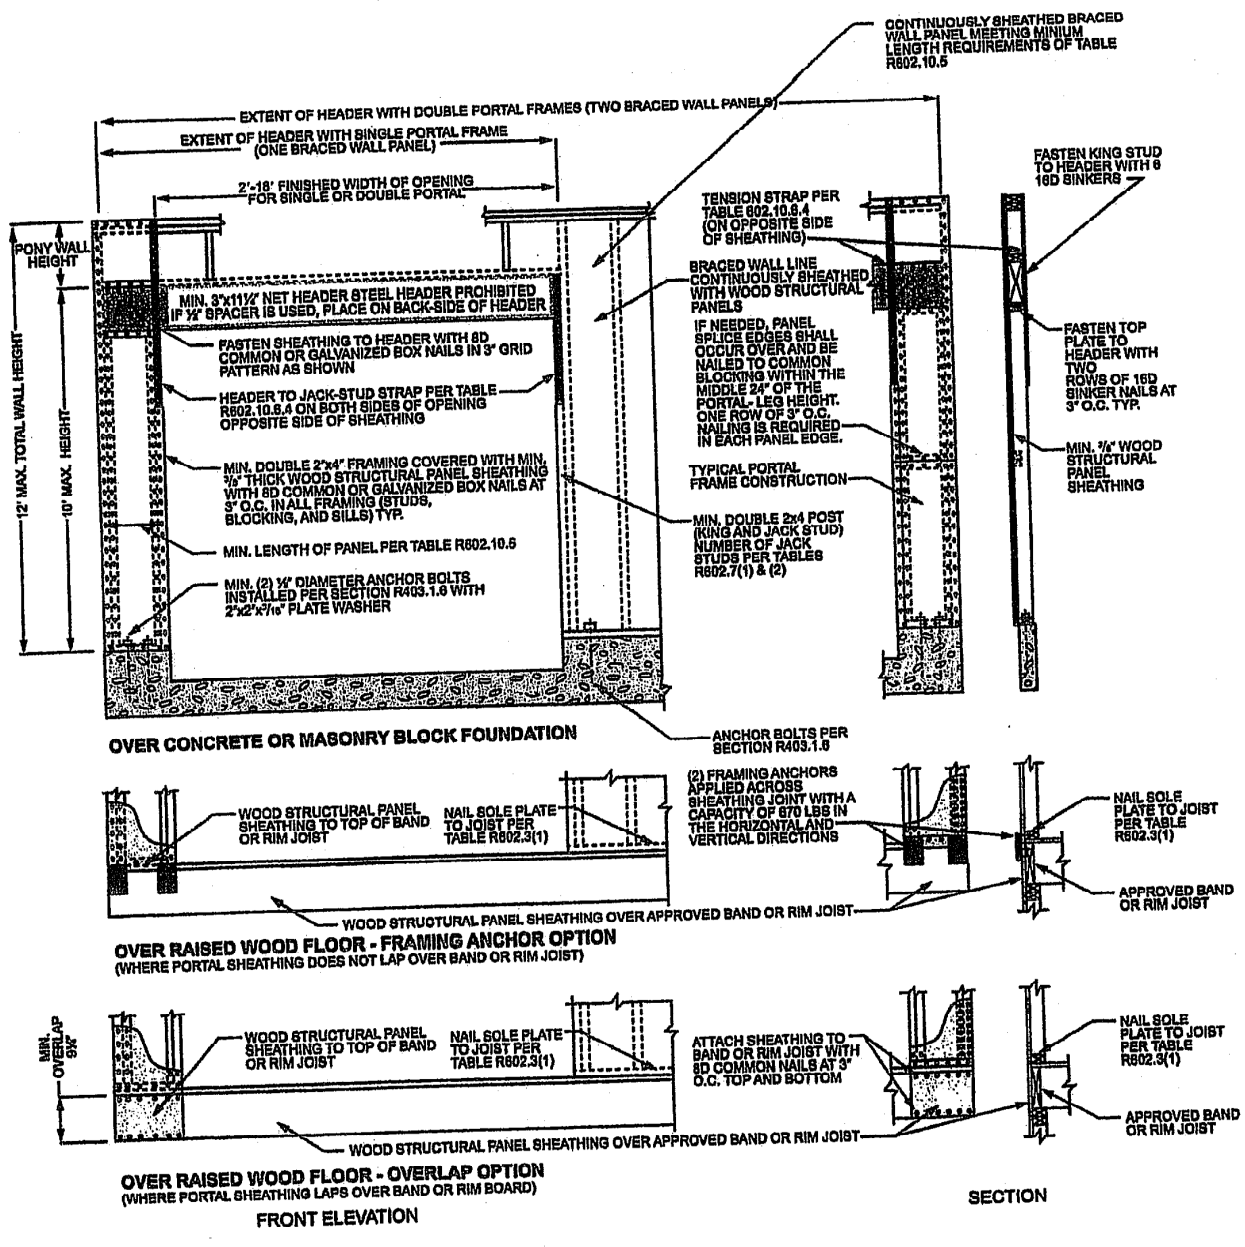

FIGURE R602.10.6.4
d. Maximum header height for CS-PF is 10 feet in accordance with Figure R602.10.6.4, but wall height shall be permitted to be increased to 12 feet with pony wall.
e. Maximum header height for CS-PF is 10 feet in accordance with Figure R602.10.6.4, but wall height shall be permitted to be increased to 12 feet with pony wall.